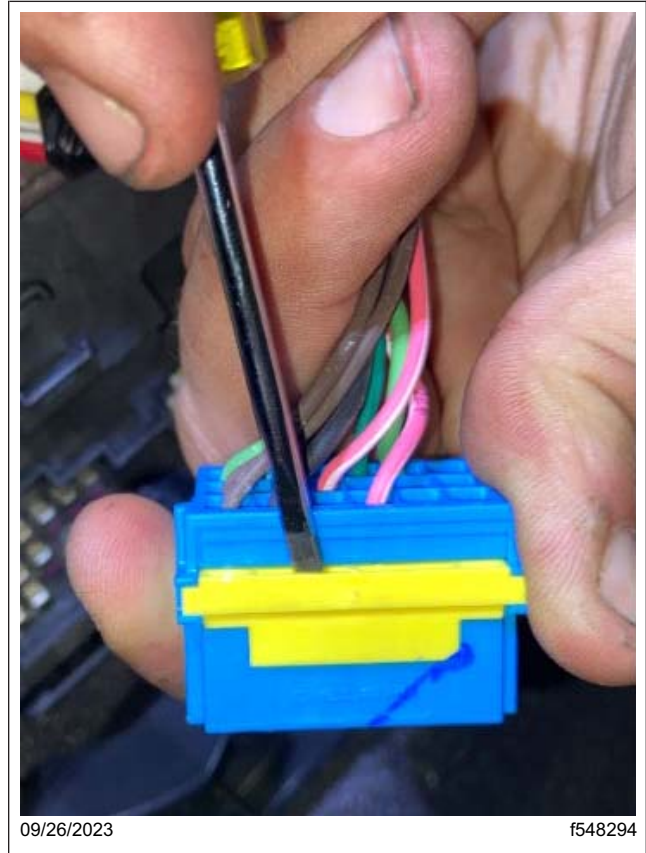

Fig. 26, Releasing the Lock on the SSAM X2 Connector
- 9.2 Gently pry up on the yellow locking tab of the X2 connector as shown in Fig. 26. Note that the lock does not come all the way out.